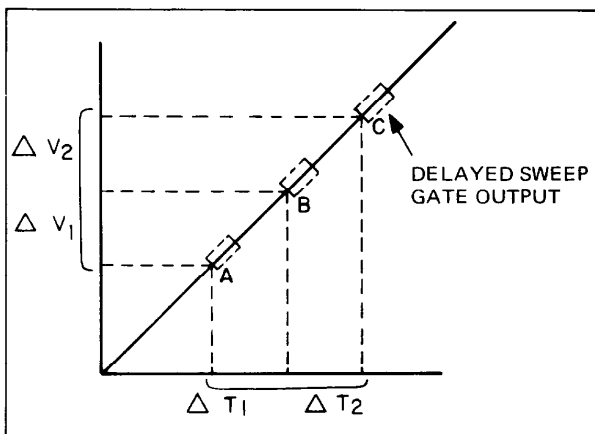

Figure 3-13. Using Delayed-Sweep Oscilloscope in Ramp Linearity Measurements.
f. Position the delayed-sweep intensified trace at any number of sampling points (at least three) along the ramp, as shown in Figure 3-13.
g. The slope of the ramp between various measurement points can then be compared to determine linearity. In Figure 3-13, for example, slope AB should be compared to slope BC as follows: